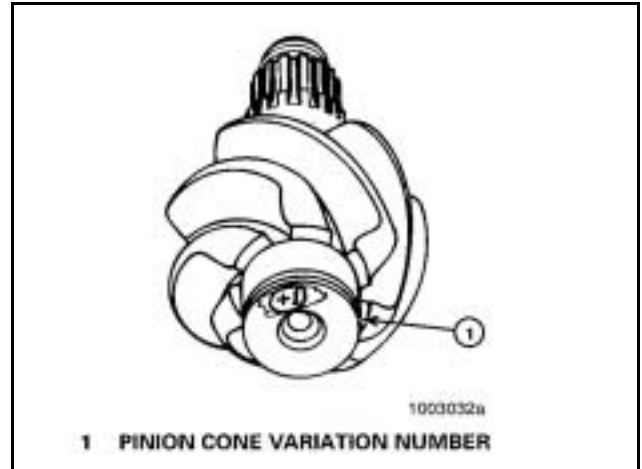

Figure 54
- a. **Examples** – refer to **Figure 54**.